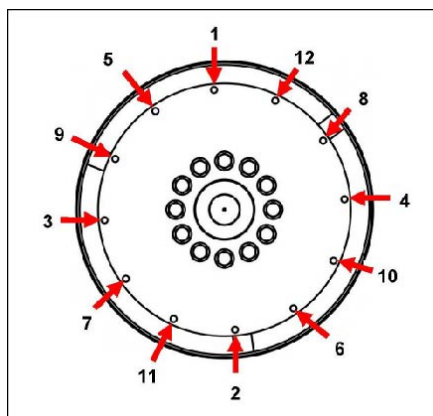

FIGURE 18. FIXING SEQUENCE
10. Remove the alignment dowels. Fit the coupling bolts, using heavy gauge washers under the heads. Tighten the bolts to fix the coupling disc to the flywheel, in the sequence shown in Figure 18 on page 35.